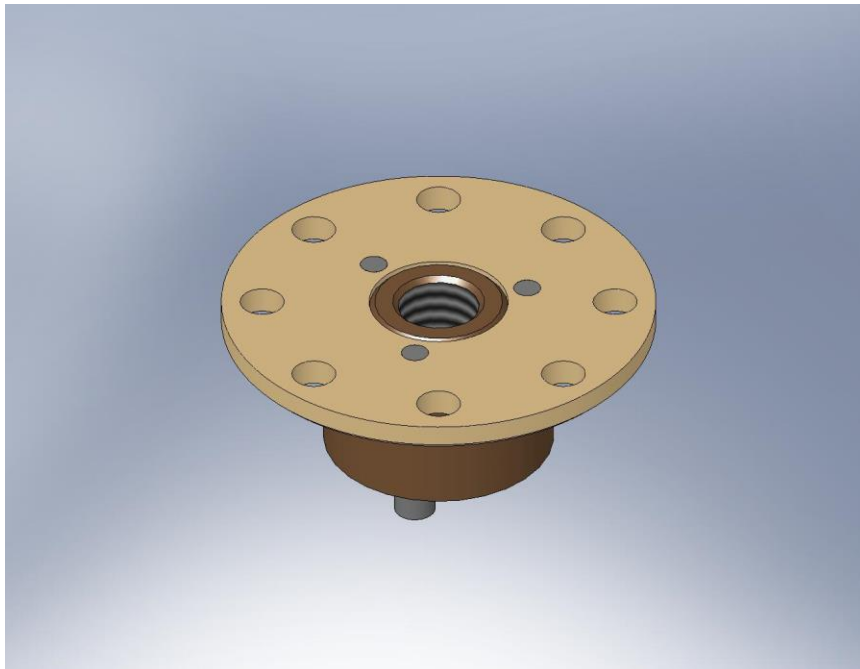

Figure 4.56. Pull-Down Nut bolted onto Pull-Down Base.
- Insert **Spring Pull-Down Nut** (D071308) through bottom of **Spring Pull-Down Base** (D071307), as shown in Figure 4.56. Snug all (3) screws, then torque to final spec. Set aside for later use.